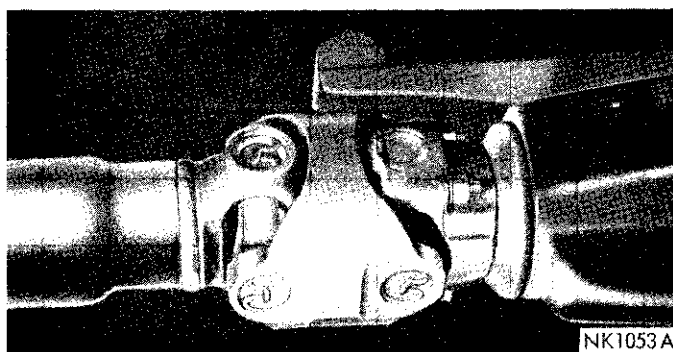

Fig. 13—Rear Constant Velocity Universal Joint
(2) Adjust position of bubble in spirit level in accordance with the listing for appropriate car model as shown in Chart (Fig. 13).
(4) Observe position of bubble in spirit level and compare the position with that shown on Chart (Fig. 13) for rear joint angle. A normal joint angle will cause the bubble to position itself within the acceptable range.
(5) If bubble in spirit level is found outside the ac-
(1) Loosen and remove nuts and lockwashers attaching rear constant velocity universal joint to rear axle pinion flange (Fig. 13).